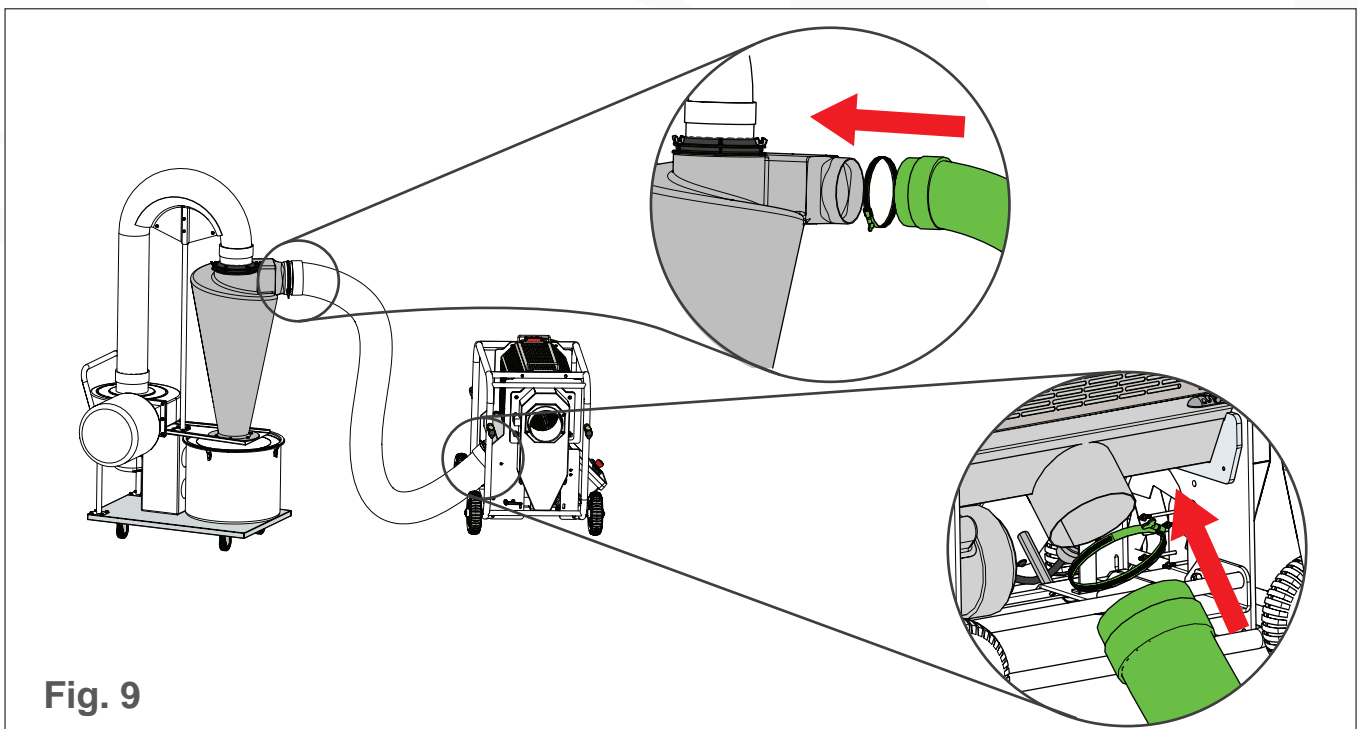

Fig. 9
2. Attach a hose to the vacuum outlet on the T2 and the vacuum inlet on the Trim Saver or the Leaf Collector (see Fig. 9. Trim Saver pictured).